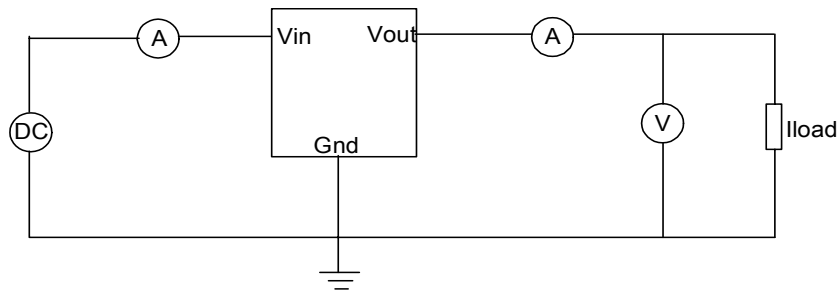

Figure 1: NCP565 Test Setup
a. Connect the demo board as shown in Figure 1